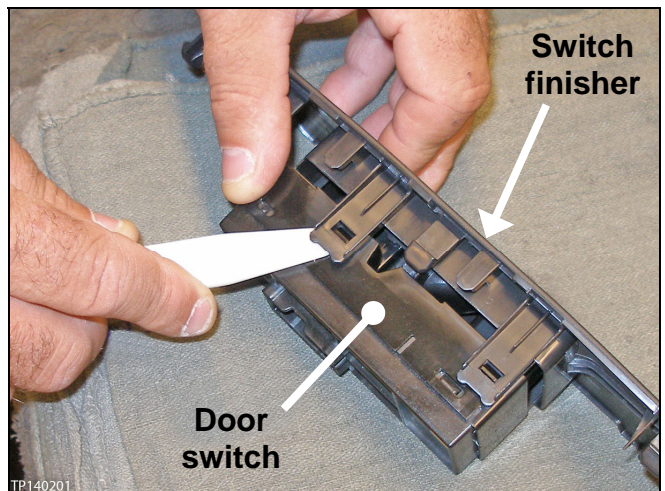

Figure 4
- a. Unclip the switch finisher from the “front door power window and door lock/unlock switch” (door switch). See Figure 4.